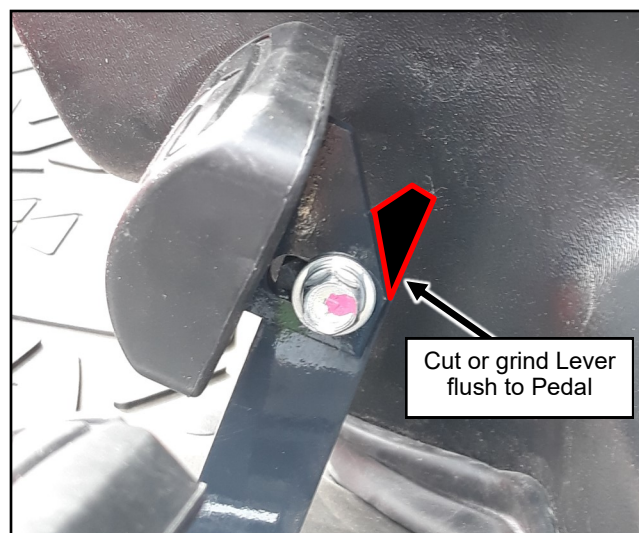

Fig. 1.10 (Trim Accelerator Pedal Lever)
- 1.10** Per Figure 1.10, cut or grind the end of the Accelerator lever flush with the front edge of the bracket on the Accelerator pedal.